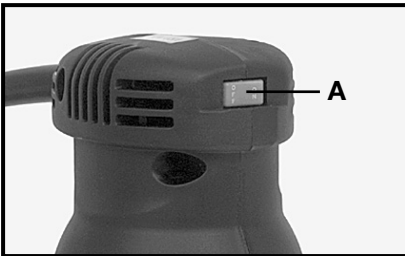

Fig. 1
3. The switch button, (A) Fig. 1, is labeled “ON” and “OFF”. Depress the “ON” end of the switch button to start motor. Depress the “OFF” end of the switch button to stop motor.